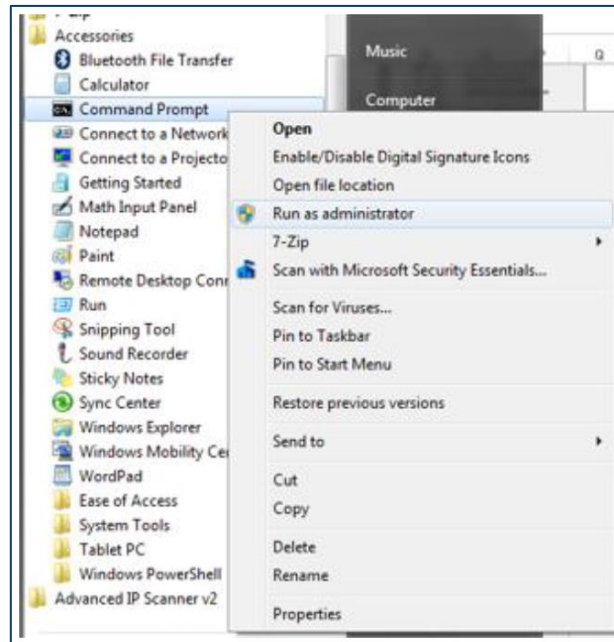

Fig. 16 – Accessories – command prompt selection
2. Right-click “Command Prompt” in Accessories and choose “Run as Administrator.” See Figures 16 and 17.